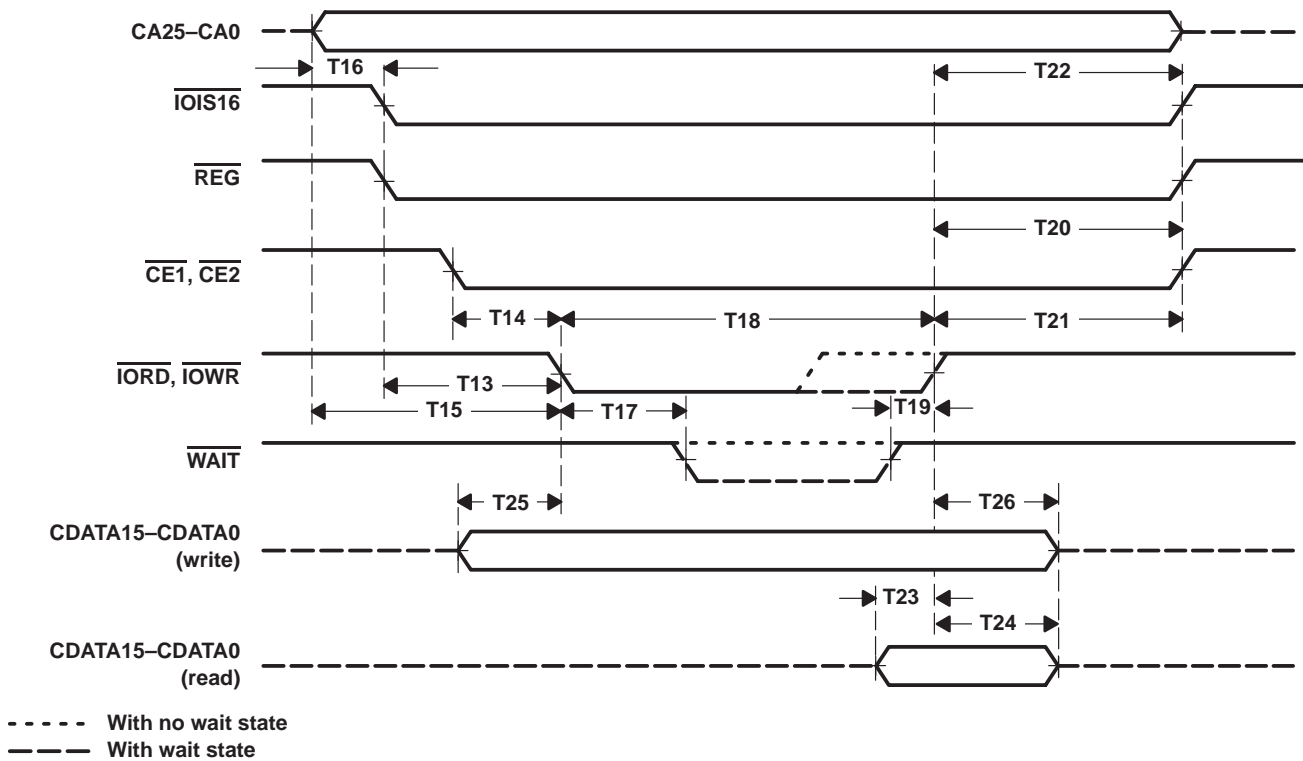

Figure 24. PC Card I/O Cycle
**timing requirements over recommended ranges of supply voltage and operating free-air temperature, I/O cycles (see Figure 24)**